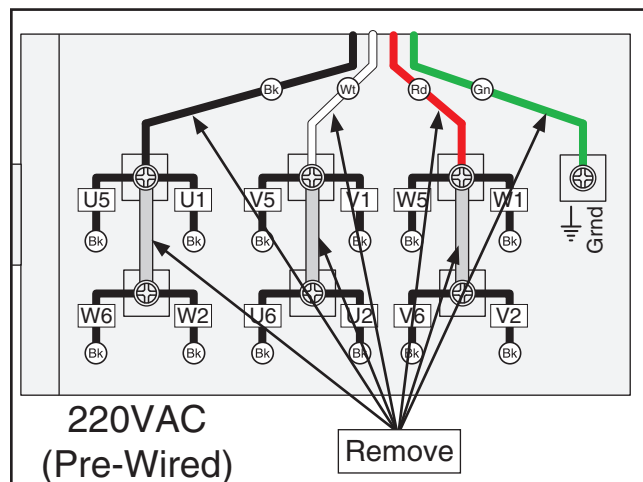

Figure 4. Model G0637 motor wired for 220V.
5. Disconnect the old motor cord from the motor and remove the (3) terminal jumpers (see **Figure 4**).